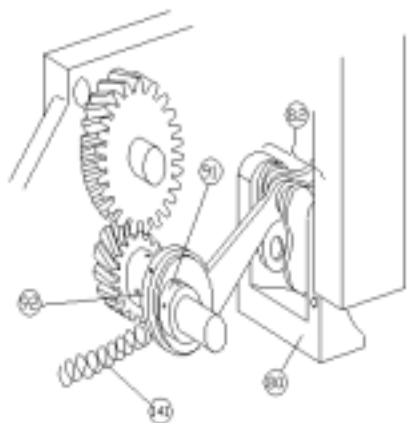

FIG. 27
- (a) Remove the screw (100) from the ball and socket joint mounted on the correction drive levels (101).
- (b) Remove the screw (102) from the lower ball and socket joint and remove the rod with the joints (103).
- (c) Remove the upper stop register (99) for maximum length of stitch.
- (d) Release the spring (141) of the stitch length unit. FIG. 27.